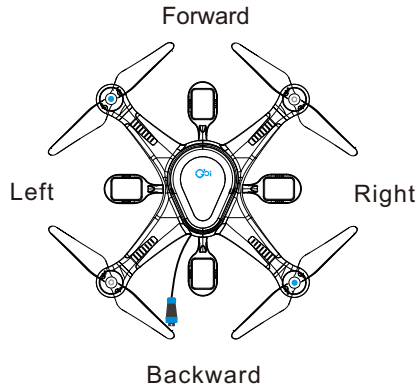

Figure 5: Drone Orientation Diagram
- ① To power on or use the mooring integrated box, you need to connect an external power supply.
- ② By default, when the drone is hovering in the air, please turn off the automatic cable retraction switch.
- ③ When the system is disconnected from the external power supply, the backup battery of the tethered box will supply power to the box and the drone, and the buzzer of the case will start to alarm, and the backup battery will stop supplying power after about 7 minutes.
- ① The direction of the drone itself (as shown in Figure 5), the rounded blue and white top cover is the nose, and the sharper part is the tail.
- ② When flying at night, the color of the lights on the bottom of the wings can be used to determine the direction of the drone; the side with the red light on is the nose, and the side with the blue light on is the tail.